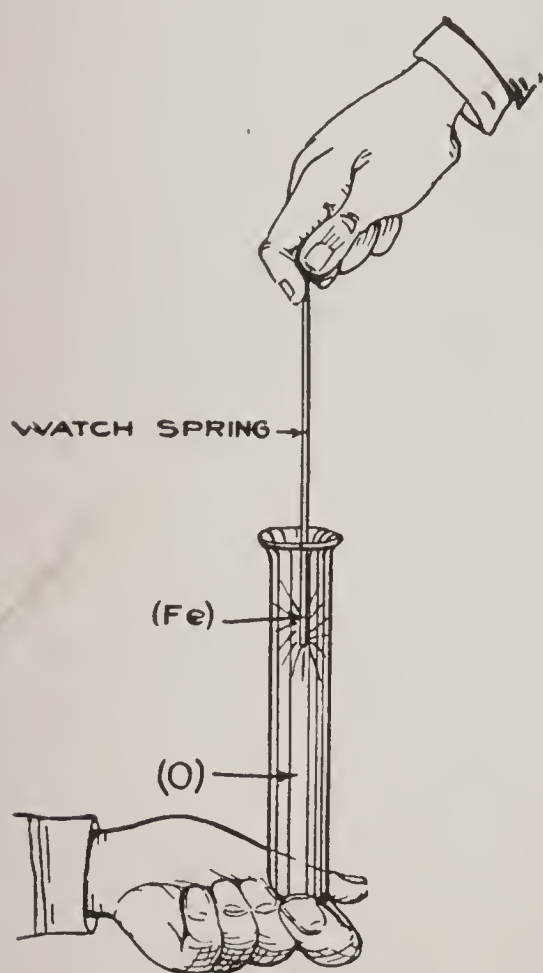

FIG. 45.—The Scintillating Watch-Spring.
your fingers. Wrap a bit of cotton which you have moistened in alcohol (CH_3OH) around one end and light it. Then hold the steel spring in a test tube or a beaker of oxygen (O) and it will ignite and, once started, will burn with great brilliance, scintillating beautifully, as shown in Fig. 45. At the same time incandescent drops of dross will fall and a reddish vapor will condense on the surface of the test tube or beaker.